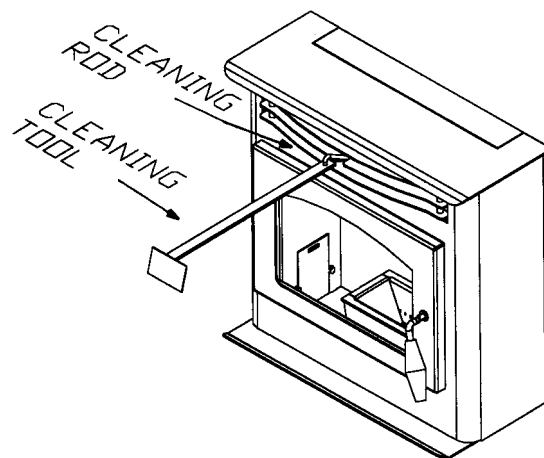

FIGURE 25
- Clean heat exchanger tubes (see "**CLEANING**" and Figure 25).
- Heat Exchange Tubes** – Your Breckwell stove is designed with a built-in heat exchange tube cleaner. This should be used every two or three days to remove accumulated ash on the tubes, which reduces heat transfer on the P22. Insert the handle end (with hole) of the cleaning tool onto the cleaning rod (refer to figure 25). The cleaner rod is located in the grill above the stove door. Move the cleaner rod back and forth several times to clean the heat exchanger tubes. Be sure to leave tube cleaner at the rear of the stove.